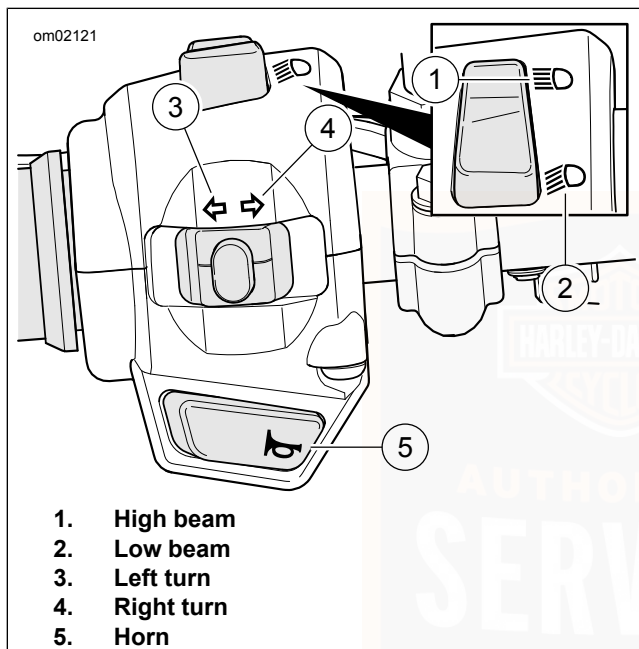

Figure 24. Left Hand Control Switches
See Figure 24. Press the high beam switch (1) to select the headlamp high beam. The high beam indicator illuminates when the high beam is on. Refer to Table 21.
See Figure 24. Press the low beam switch (2) to select the headlamp low beam. Refer to Table 21.
See Figure 24. Press the turn signal switch left to activate the left turn signal. The signal flashes until it is manually canceled. To cancel, push the center button to center detent. Refer to Table 21.
See Figure 24. Press the turn signal switch right to activate the right turn signal. The signal flashes until it is manually canceled. To cancel, push the center button to center detent. Refer to Table 21.
See Figure 24. Press the horn switch to sound the horn. Refer to Table 21.